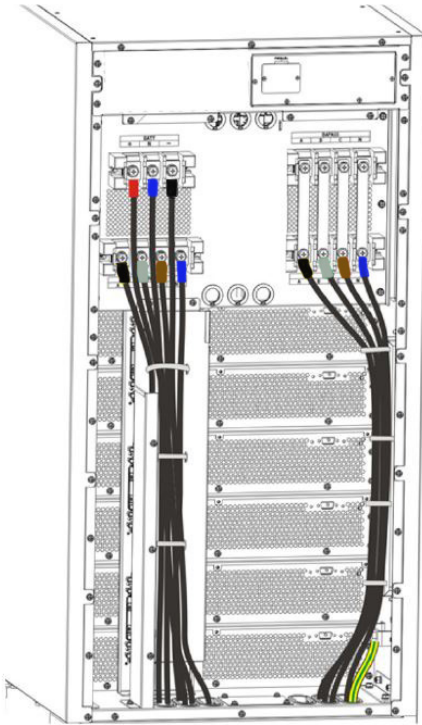

Fig. 33. Cables entering a 6-slot cabinet.
- 6-slot cabinets have two elliptical bushings on the base of the cabinet (see Fig. 33). Make the necessary cuts to allow the cables to pass through.
It is important to secure the cables at the points shown in Fig. 33, so as not to obstruct the ventilation air outlet.